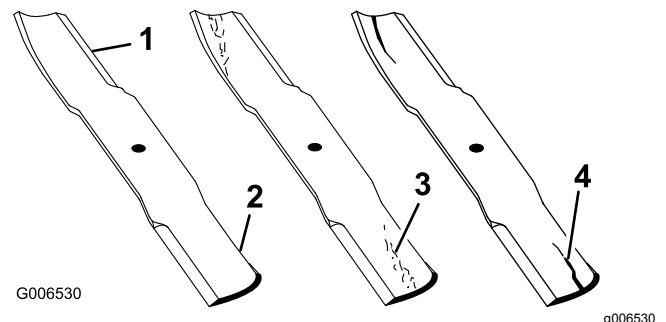

Figure 62
1. Inspect the cutting edges (Figure 62). If the edges are not sharp or have nicks, remove and sharpen the blades. Refer to Sharpening the Blades.
2. Inspect the blades, especially the curved area (Figure 62). If you notice any damage, wear, or a slot forming in this area (Figure 62), immediately install a new blade.